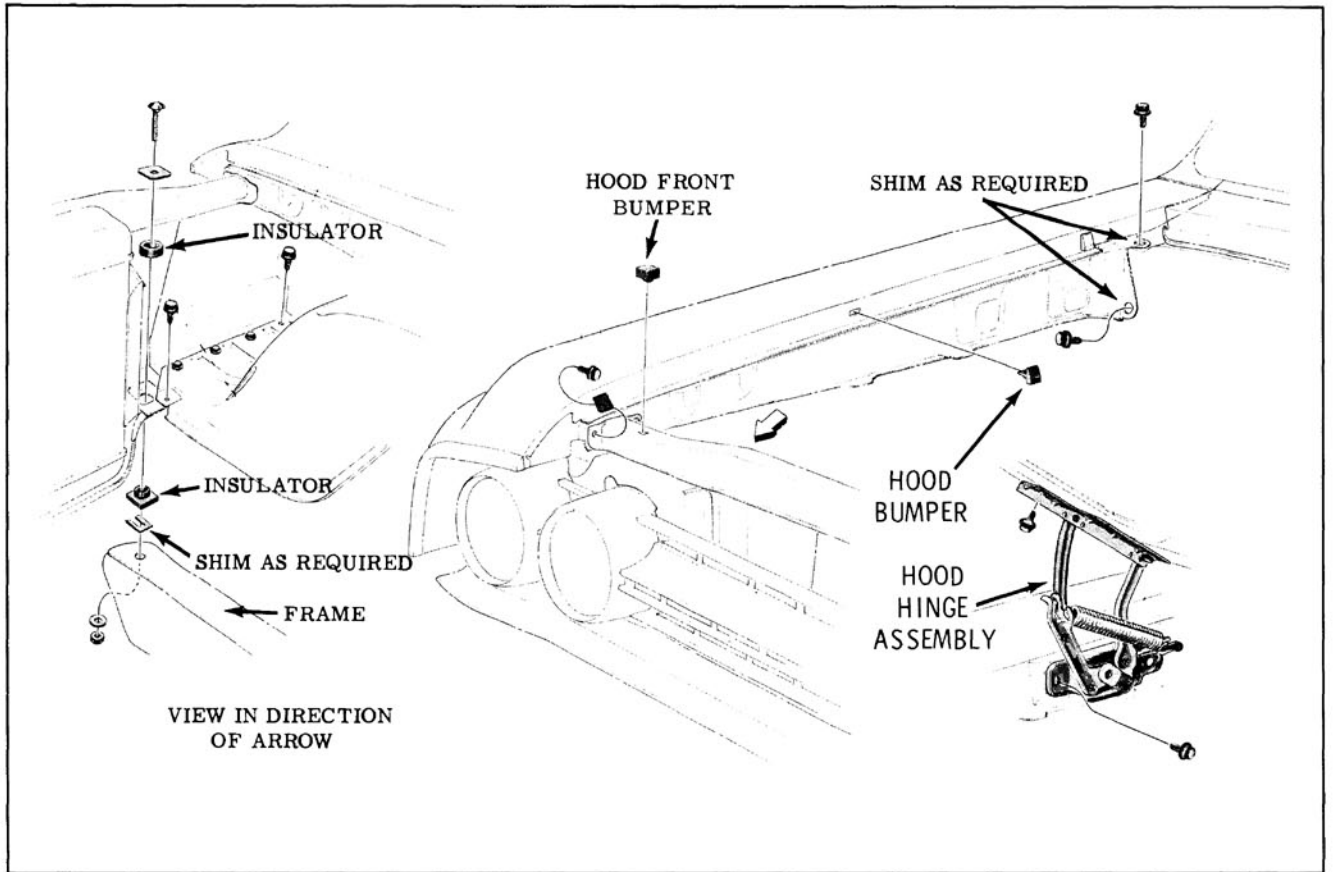

Fig. 15-108 Sheet Metal Attachment
2. Remove the screws shown in Fig. 15-108 and screw retaining fender-to-bumper baffle.